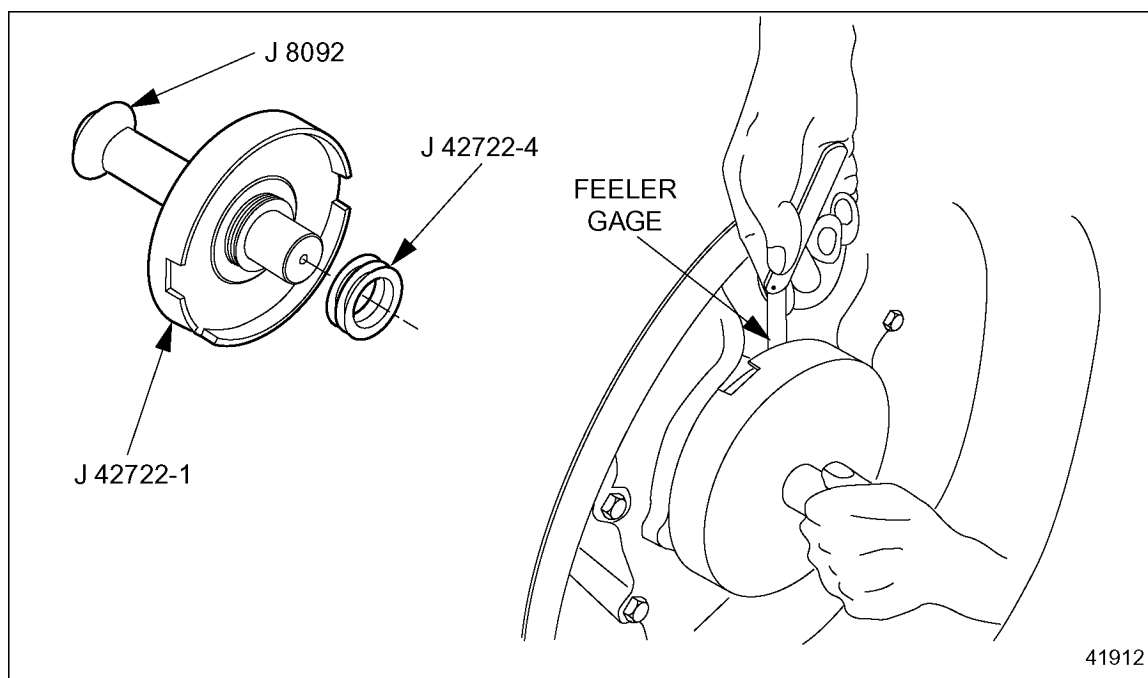

Figure 9-16 Installation of Shims
- [d] Attach driver handle, J 8092, onto the setting tool, J 42722-1. See Figure 9-16.
- [e] Stack approximately 0.100 in. of shims, J 42722-4, onto the nose of the setting tool. See Figure 9-16.
- [f] Add or remove shims until 0.005 in. gap is measured at four points (90 degrees apart) with a feeler gage. See Figure 9-16.